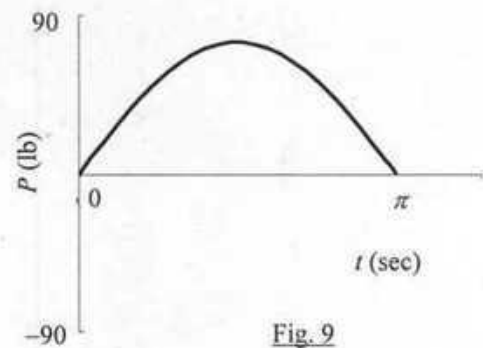

Fig. 9
11. An object  $a$  (weighing  $W_a = 150$  lb) is subjected to a horizontal force  $P = 90 \sin(t)$  due to ground motion, whose variation with time is shown in Fig. 9.